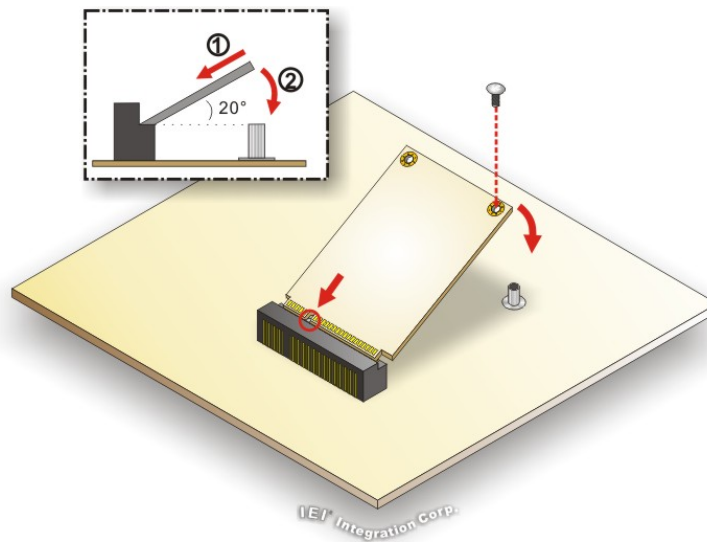

Figure 3-5: mSATA Module Installation
- Step 4:** Secure the mSATA module with the retention screw. Push the other end of the mSATA module down and secure the module with the previously removed retention screw (**Figure 3-5**).